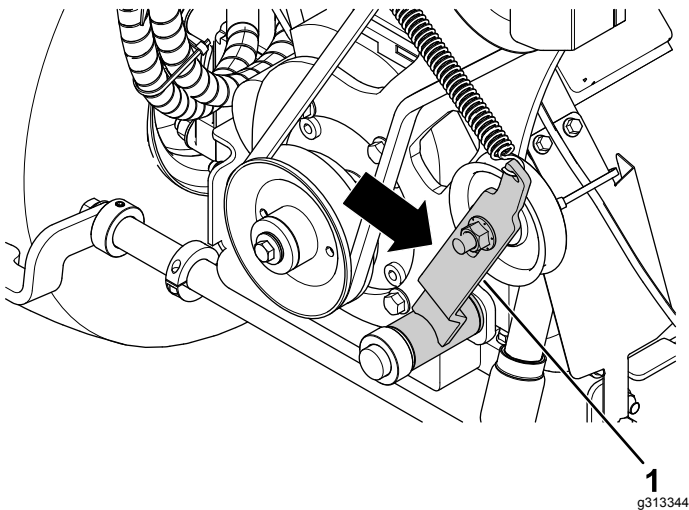

Figure 91
4. Pull the tension arm away from the belt and remove the existing belt from the pulleys (Figure 91).